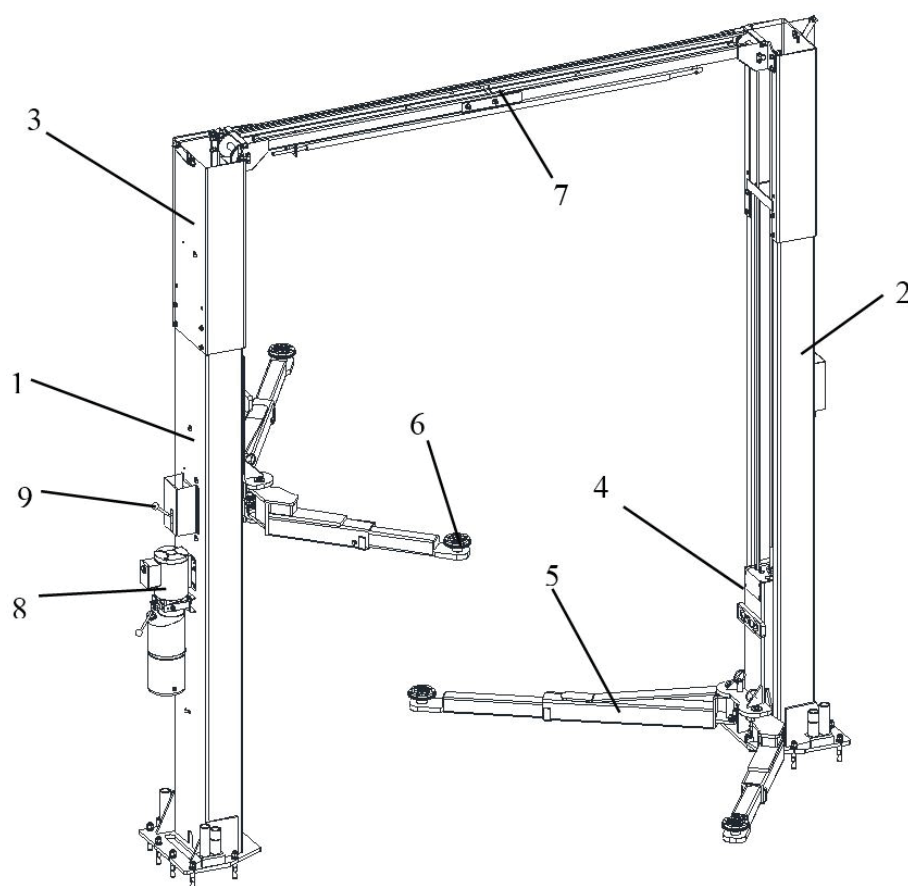

Figure 2 – Lift
This chapter describes the lift's principal elements, allowing the user to be familiar with the machine. As shown in figure 2, the lift is composed of two columns: power-side column (1) and off-side column (2) with the extension (3) on each, each equipped with a carriage (4) and a pair of lifting arms (5) with the adaptor (6) anchored to the ground by means of the column base. The overhead beam (7) is equipped with the anti-crush safety bar and an overhead cut-off